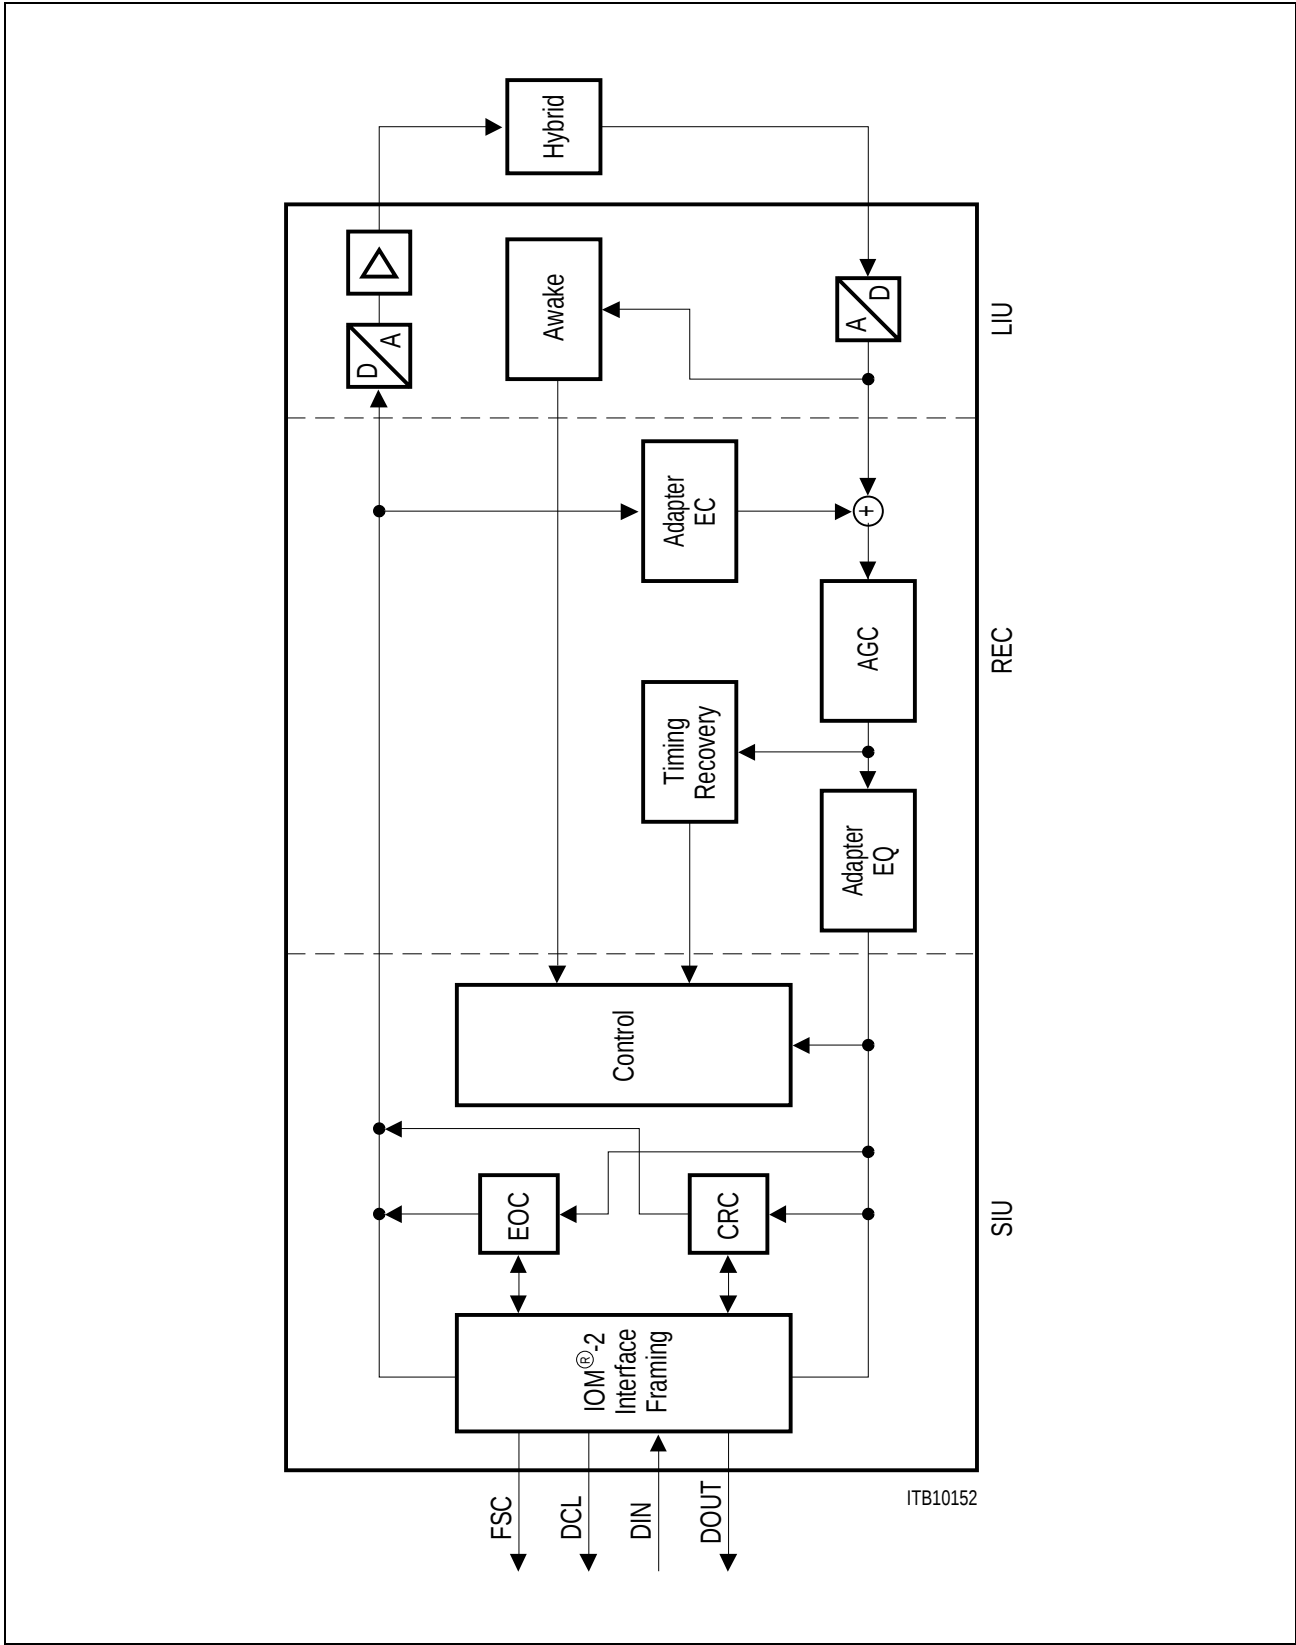

Figure 16 U-Transceiver Block Diagram
**Figure 16** shows a block diagram of the U-transceiver which can be subdivided in three main blocks: